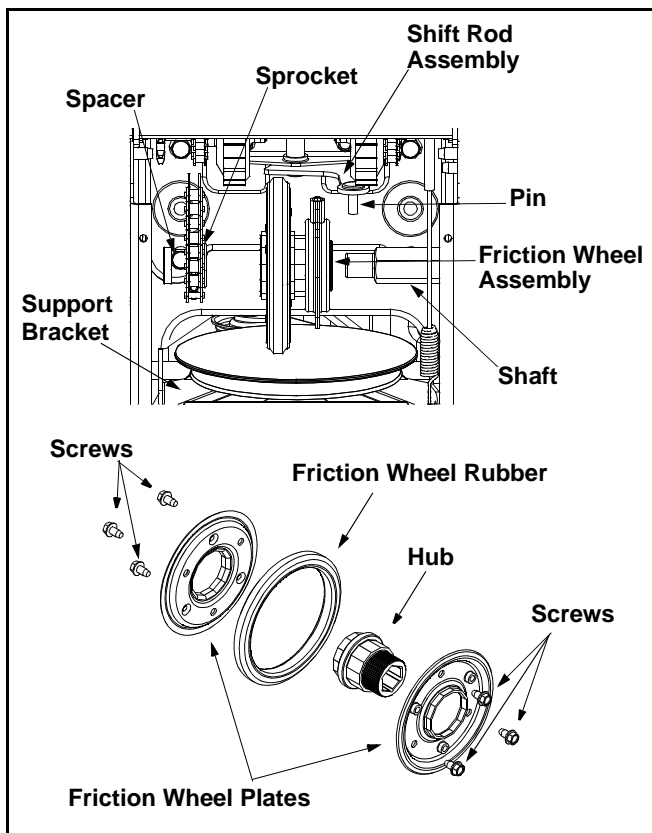

Figure 23
- Move the gear shaft to the right and slide the friction wheel assembly from the shaft. See Figure 23.
- Remove the six screws from the friction wheel assembly (three from each side). Remove the friction wheel rubber from between the friction wheel plates. See Figure 23.